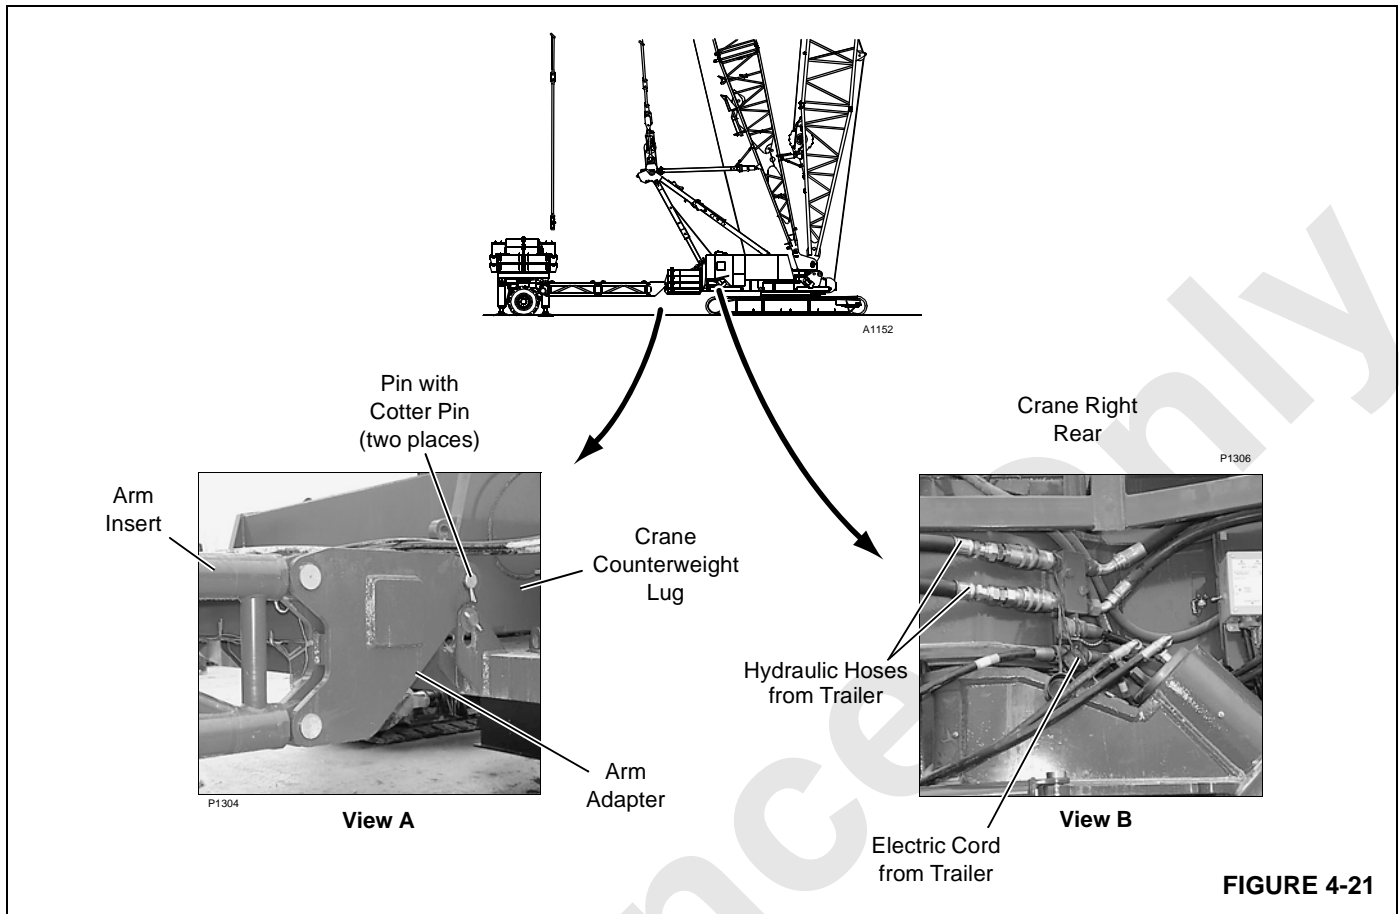

FIGURE 4-21
See Figure 4-21 for following steps.
5. Using remote control, extend or retract tongue cylinder as needed to align holes in trailer arm adapter with holes in counterweight lugs. Install pins (Figure 4-21, View A).